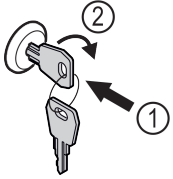

Fig. 179 Example illustration
- Insert key Fig. 179 (1).
- Turn key clockwise by 90° Fig. 179 (2).